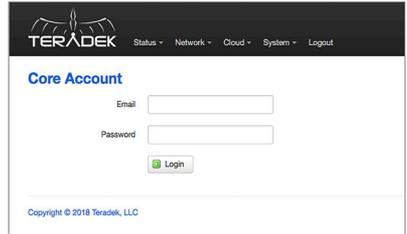

Fig. 1
- 3 Click **Configure Core Account**, then enter your credentials (Fig.1).